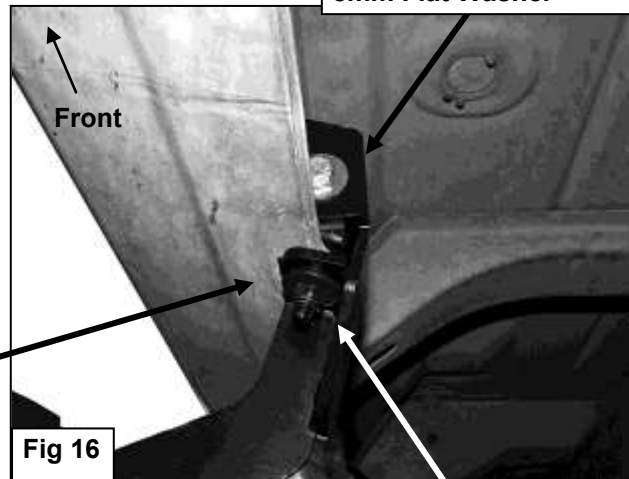

Fig 16
10. Line up the side tab on the Lower Bracket with the threaded hole in the side of the Upper Bracket. Attach the Lower Bracket to the Upper Bracket with (1) 8mm x 25mm Hex Bolt, (1) 8mm Lock Washer and (1) 8mm Flat Washer, **(Figure 16)**. Leave loose at this time.
11. Repeat **Steps 1—3** for the (2) remaining passenger side Bracket installations. **NOTE:** Cradles on Brackets installed on passenger side will face forward.